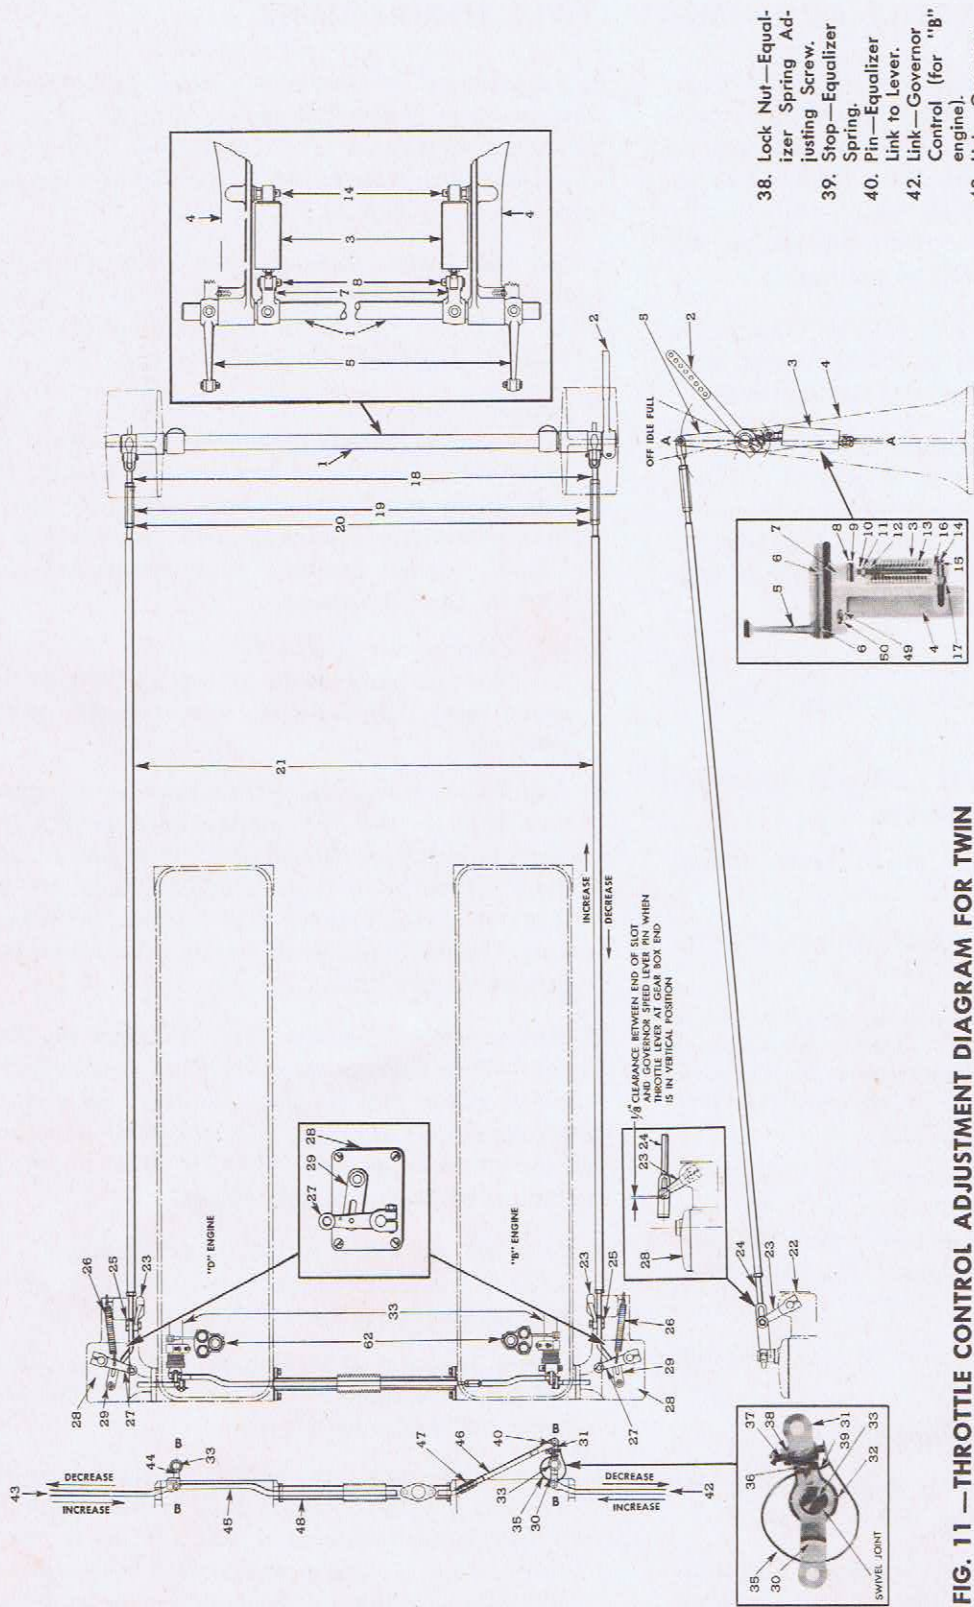

FIG. 11 — THROTTLE CONTROL ADJUSTMENT DIAGRAM FOR TWIN ENGINES USING VARIABLE SPEED GOVERNORS.
II. Adjustments of Governor Speed Lever Control Linkage—With Engines Stopped—After adjusting the individual governors and connecting both speed lever links (24), refer to Fig. 11 and adjust the speed lever control linkage as follows:
1. Set the throttle control cross shaft (1) so that throttle control levers (5) are in a vertical position. At "A-A" in Fig. 11. In this position, the detent ball (50) will drop into position in lever (5).
2. Adjust turnbuckles (19) on the throttle control tubes (21) so there is $\frac{1}{8}$ " between the forward end of the slot in throttle control link (24) and the bolt (25) in the speed control lever (23). This insures that when the master throttle is returned to "IDLE" (detent position) each governor is free from the throttle linkage.
3. Move the master throttle (2) until the "B" engine link (24) just barely starts to pick up the governor speed lever (23). Lock the master throttle in this position.
4. Adjust the turnbuckle (19) on the throttle control tube (21) for the "D" engine until its link (24) starts to pick up its speed lever, then take not less than $\frac{1}{4}$ " nor more than $\frac{1}{2}$ " additional shortening turns on the turnbuckle (19) for the "D" engine only. Tighten lock nuts (20) at turnbuckles on both throttle control tubes.
III. Adjustment of Equalizer Link Between the Two Engines—With Engines Stopped—With equalizer link (45) and cover (48) in place between the two engines; also, after adjusting the individual governors and the speed lever control linkage, refer to Fig. 11 and adjust the length of link (45) as follows:
1. Back out equalizer spring adjusting screw (37) so there is a definite clearance between the screw and the free end of the equalizer spring (35).
2. Loosen lock nut at turnbuckle (47) on equalizer link for "B" engine and remove pin (40) that connects link (46) to lever (31).
3. Set equalizer link lever (31) at "B" engine so that its clevis pin (40) center is directly over the center of the injector rack control tube (33) as shown at "B-B", Fig. 11. Set equalizer link lever (44) at "D" engine so that its clevis pin center is directly beneath the center of its injector rack control tube.
4. Adjust the length of link (46) so that pin (40) at the "B" engine can just be slipped in place with